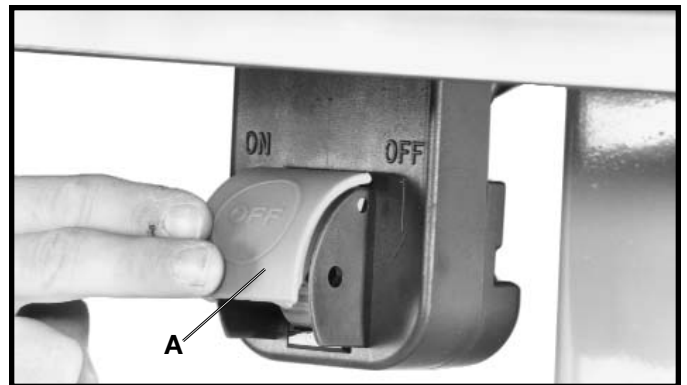

Fig. 55
2. To turn the saw "OFF," push down on switch shield (A) Fig. 55.